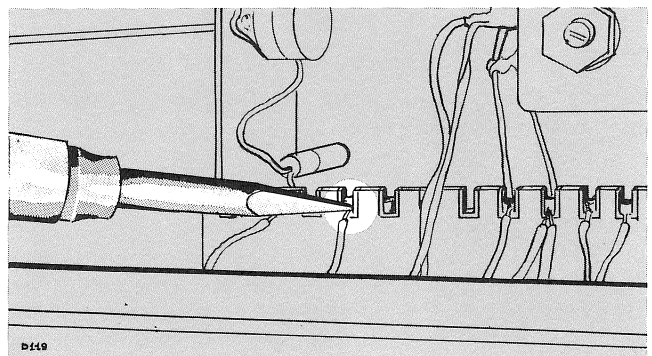

Fig. 4-2. Correct method of applying heat in soldering to a ceramic strip.
4. Apply one corner of the tip to the notch where you wish to solder (see Fig 4-2).